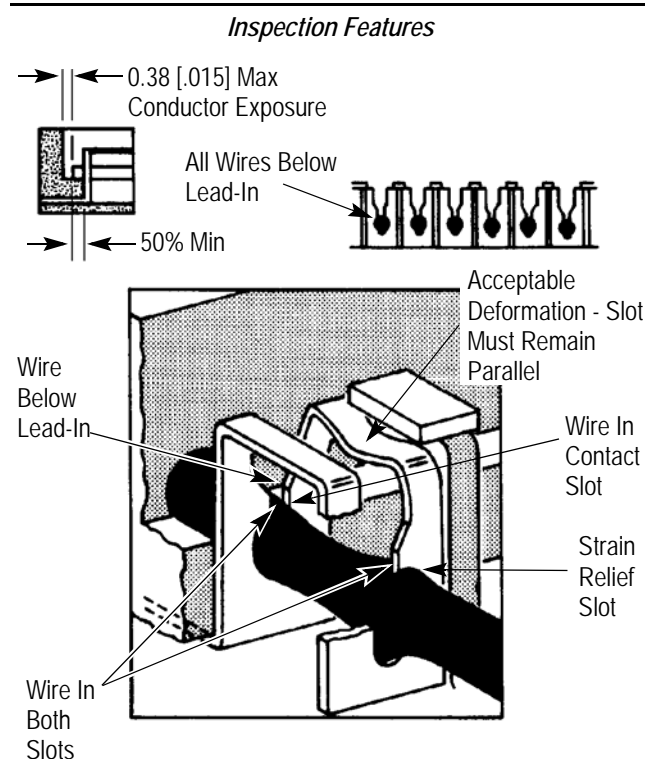

Figure 7
1. Be certain the wire is inserted evenly so that the insulation is below the "V" shaped lead-in on both the contact slot and the strain relief slot. See Figure 7.